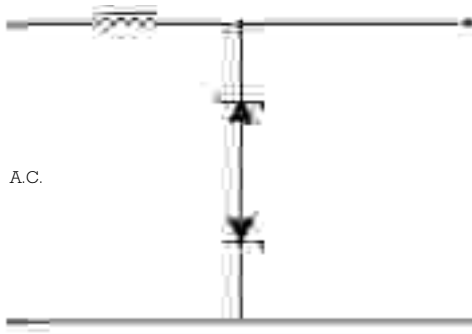

Fig. 13
6.4. Suppression of transients on A.C. supplies (Fig. 13)